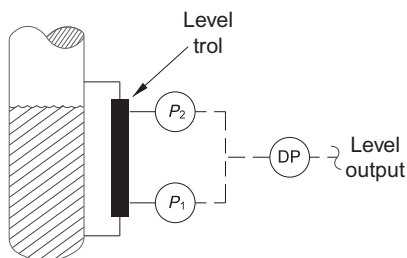

FIG. 41.2 Level is indicated by SG and differential pressure.
Liquid levels are not measured directly. They are indirectly measured by means of a “Level-Trol” (see Fig. 41.2). The pressure difference (DP) between P_1 and P_2 (psi) is measured and then converted into inches of level (D_H) by use of Eq. (41.1):
Flows are indirectly measured by use of a flow orifice plate. The DP across the orifice plate is measured and then converted to flow using Eq. (41.2) (see Fig. 41.2).
We do not directly measure levels in process units. We measure the pressure difference between the top and bottom level taps (Fig. 41.2). To convert from a differential pressure, to level, we use the specific gravity of the liquid (Eq. 41.2). For a given differential pressure, the indicated level that operators observe on the control panel will:
During the Raffinate Splitter start-up, the liquid in the bottom of the tower was less dense than normal. Thus, the indicated level observed on the control panel was lower than the actual level. Unfortunately, when the liquid fills the space between the lower and upper level taps, the differential pressure measured between the level taps remains constant, regardless of how high the liquid level becomes (Fig. 41.2). This is called being “Tapped-Out.” If the specific gravity of the liquid is 10% higher than normal, the indicated level on the panel will read 110%. But, if the specific gravity of the liquid is 10% lower than normal, the indicated level on the panel will read 90%. As the level rises by 10 ft, or 100 ft, above the top level connection, the indicated level will remain at 90%. Which is exactly what happened at Texas City.